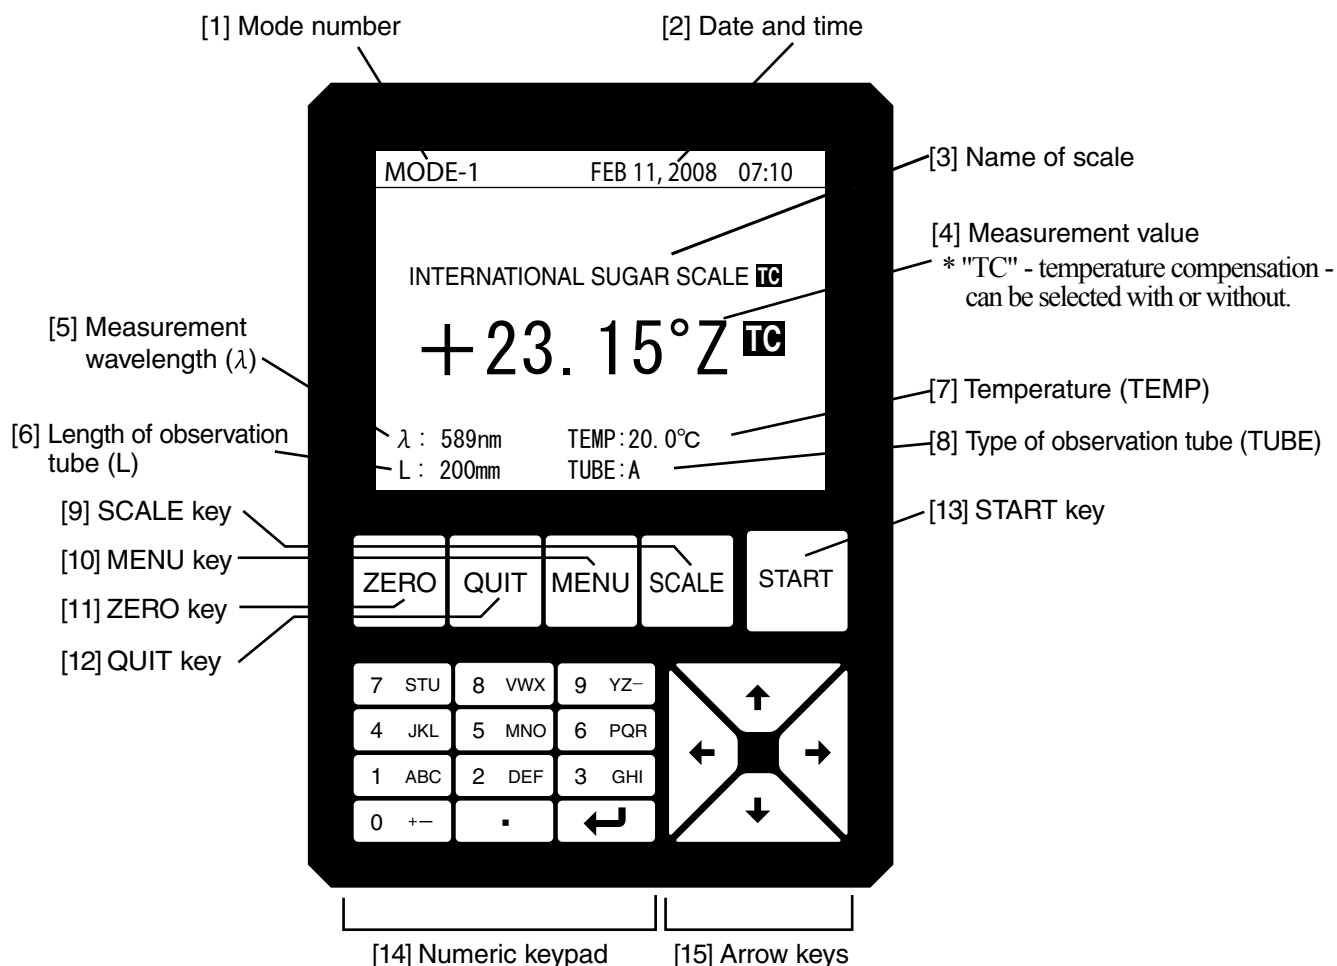

Fig.3-5
(3)-2 Display of a Measurement Value for the International Sugar Scale (Fig.3-5)